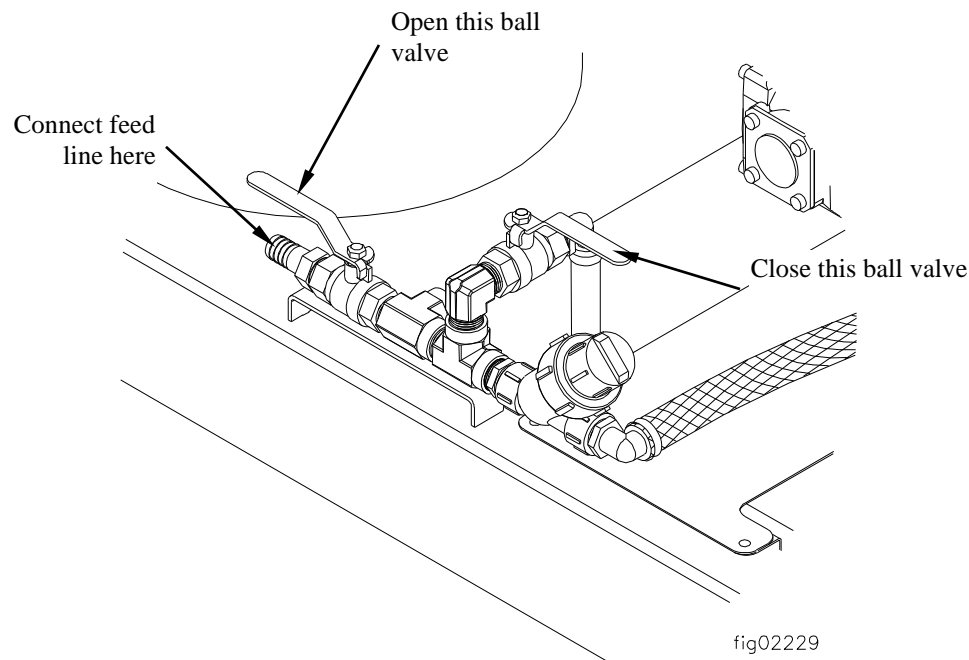

Figure 4a
Step 4. Connect the other end of the 3/4" hose to the pump as shown in Figure 4a. Make sure the connection hose does not kink.
Step 5. CLOSE the city tap water ball valve and OPEN the feed tank ball valve, as shown in Figure 4a.